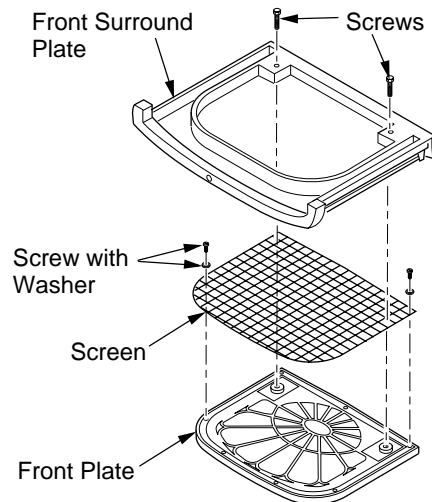

Figure 14 - Removing Screen from Front Assembly
14. Lay the front panel assembly face down on a protected surface. Remove the two screws that hold the front plate onto the front surround plate (see Figure 14). Save these screws.
15. **Optional:** Remove the seven screws and washers that hold the screen onto the front surround plate. Discard these screws, washers, and screen. They are for vent-free use only (see Figure 14).